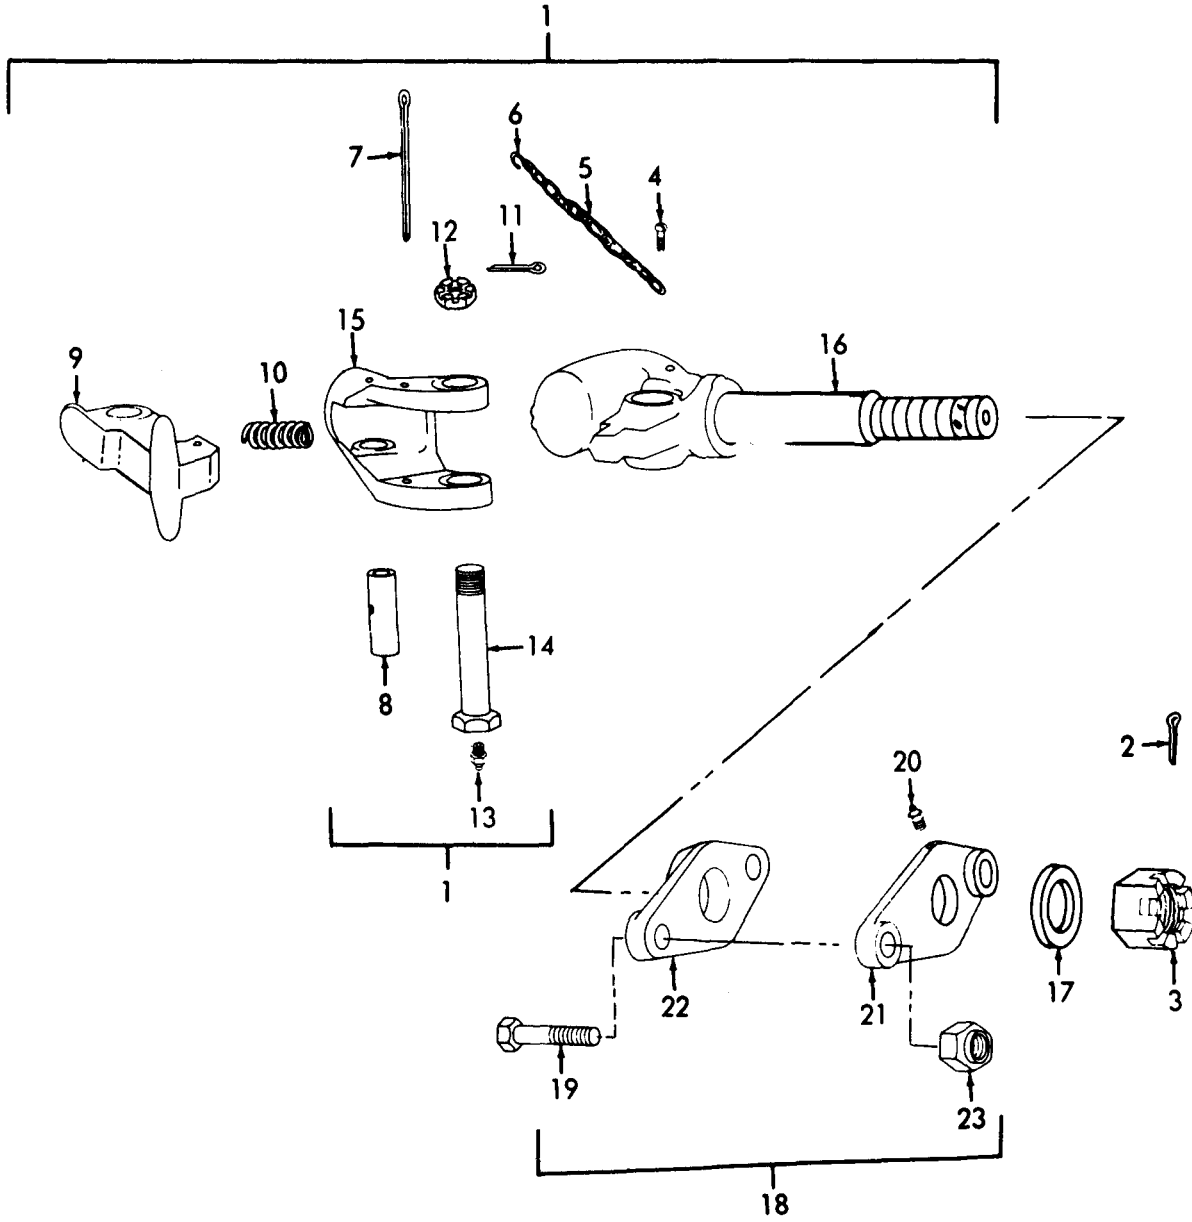

Figure 19-17. Towing Pintle.
- a. Removal. Remove the towing pintle as shown in figure 19-17.
- b. Disassembly. Disassemble the towing pintle as shown in figure 19-17.
- c. Assembly. Assemble the towing pintle as shown in figure 19-17.
- d. Installation. Install the towing pintle as shown in figure 19-17.
## LEGEND FOR FIGURE 19-17: